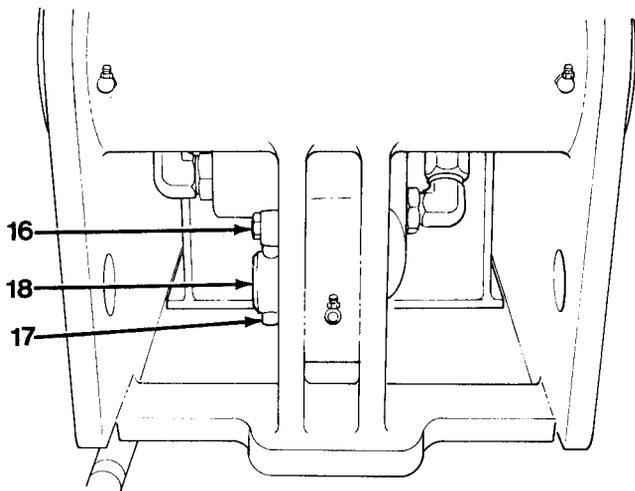

Figure 15-8
15. Install pin (18), rod end (17) and capscrew (16, Figure 15-8).